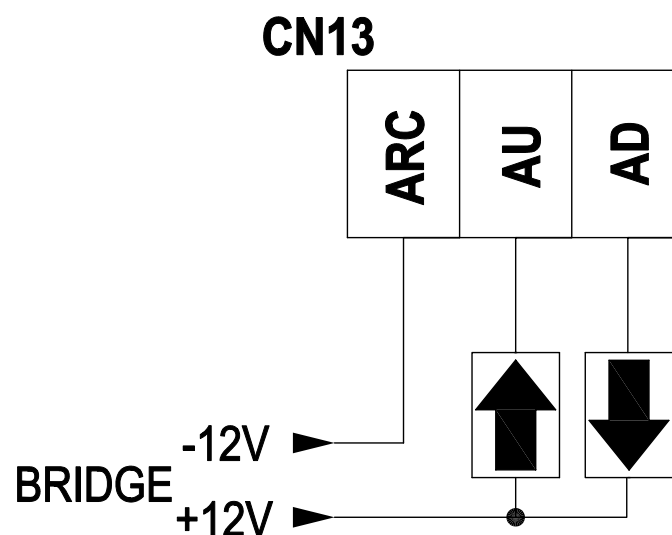

Figure 7.0 - Arrow Signals Connections
The terminals of the Arrows (Up and Down) are connected as illustrated in Figure 7.0.
- Figure 7.0 illustrates the installation and wiring of the Arrow Signals in case of not applying the hydraulic functionality.